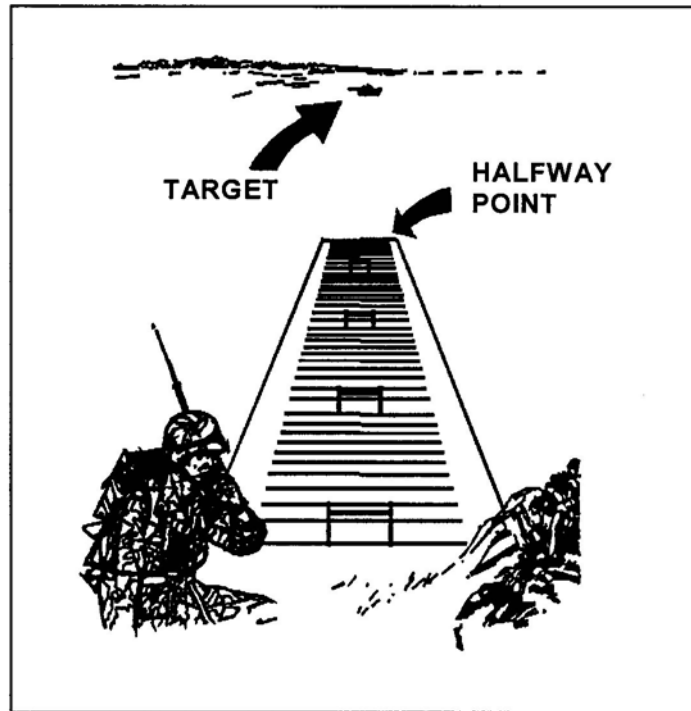

Figure 2. Halfway-point method.
- c. For ranges between 500 and 1,000 meters, pick a point halfway between you and the target. Determine the distance to the halfway point as previously described. Double the estimate to find the range to the target (Figure 2).